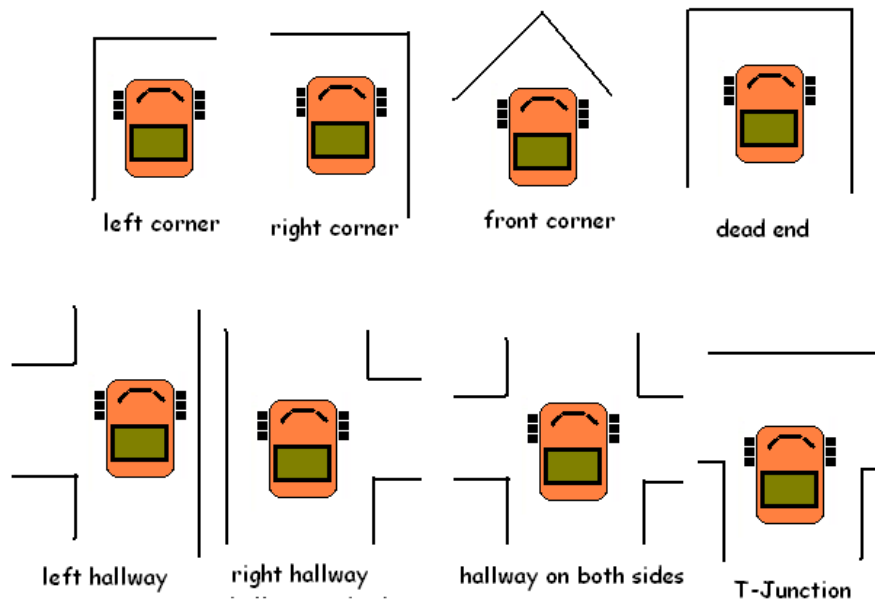

Figure 10: Distinctive Places
2. It would be advisable to use a combination of the IR and sonar for sensor redundancy to identify these locations in the world. There will be some sensor error, this is a standard problem in mobile robot navigation and the program should be designed in such a way to minimize the effect of the error. For example, average 5 or 10 readings and filter out spurious readings. Figure 10 provides descriptions of the possible world landmarks.
1. Download the world map from the Resources project folder in Moodle. The world map is a text file that includes a 4 x 4 array of 0's and 99's that represents free space and obstacles (occupancy grid) or a 4 x 4 array of numbers 0 through 15 that represents world features (topological map). You must devise a method to encode the a priori map into your program. See Figures 5 and 6 for examples of occupancy grids and see Figure 10 for example of topological maps. You should also display the map on the serial monitor to confirm that it matches the real world.